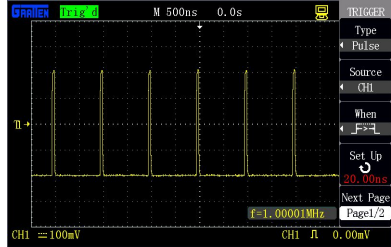

Figure 2-30 Pulse trigger
- 2. **Pulse trigger:** Set certain conditions to catch abnormal pulses, as shown in figure 2-30.